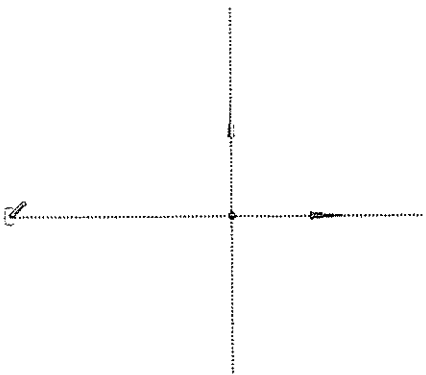

Figure 5-36 Specifying the center for the circular profile
7. Move the cursor close to X axis; the symbol of Coincident Constraint (C) is displayed.
8. Move the cursor toward your left to some distance and click while the symbol of Coincident Constraint is still displayed; the center of the circle is specified, as shown in Figure 5-36.